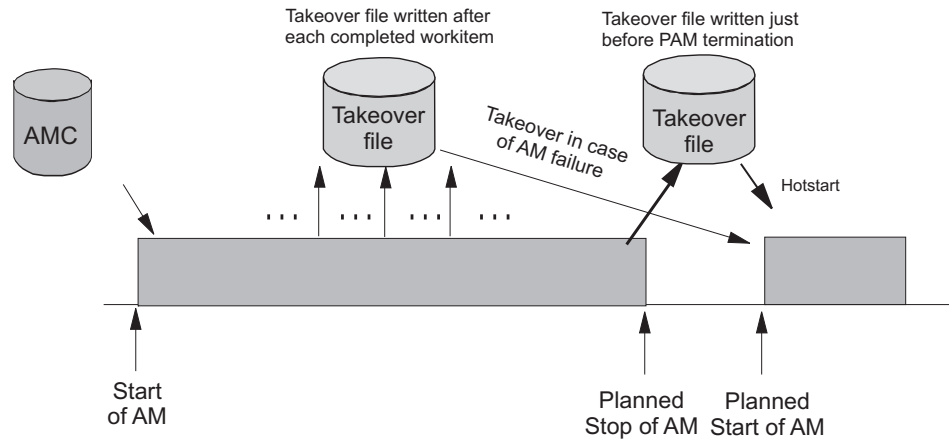

Figure 3. Using Only the Takeover File for Status Backup
Figure 3 illustrates the timeline from the start of the automation manager (AM) through to its termination for the following cases: